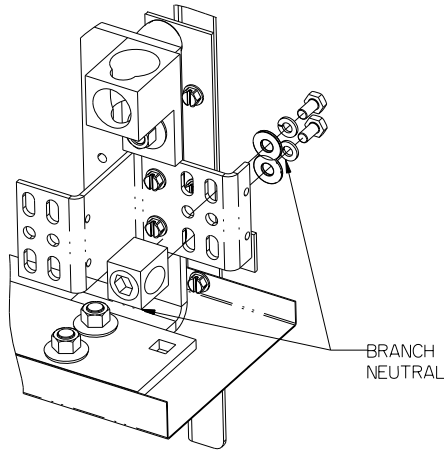

Figure 8
10. Reference fig. 8 - Installing the Branch Neutral Lug (item 2) in a Panelboard. The Branch Neutral is located at the bottom of the "Z-rails", or mirrored at the top depending upon the feed cable location. Two (2) different Neutral lug assemblies are included in the kit, be sure to install the type pictured below. The Neutral lug assemblies can be mounted, as shown, on either side of the Branch Neutral depending on cable feed location. Torque all hardware as specified on the rear of the deadfront.